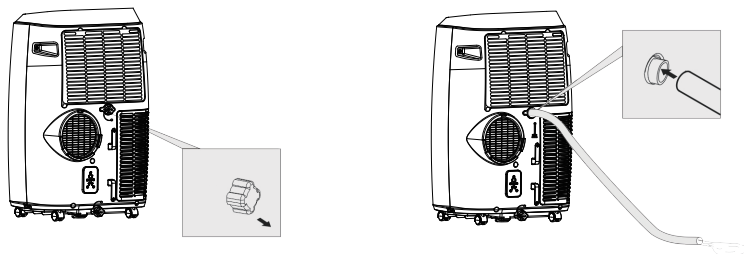

Fig. 10a
The installation manner of window slider kit is mostly in “horizontal” and “vertical”. As shown Fig.10 and Fig.10a, check the min. and max. size of the window before the installation.
1. Install the window kit on the window (Fig.10, Fig.10a);